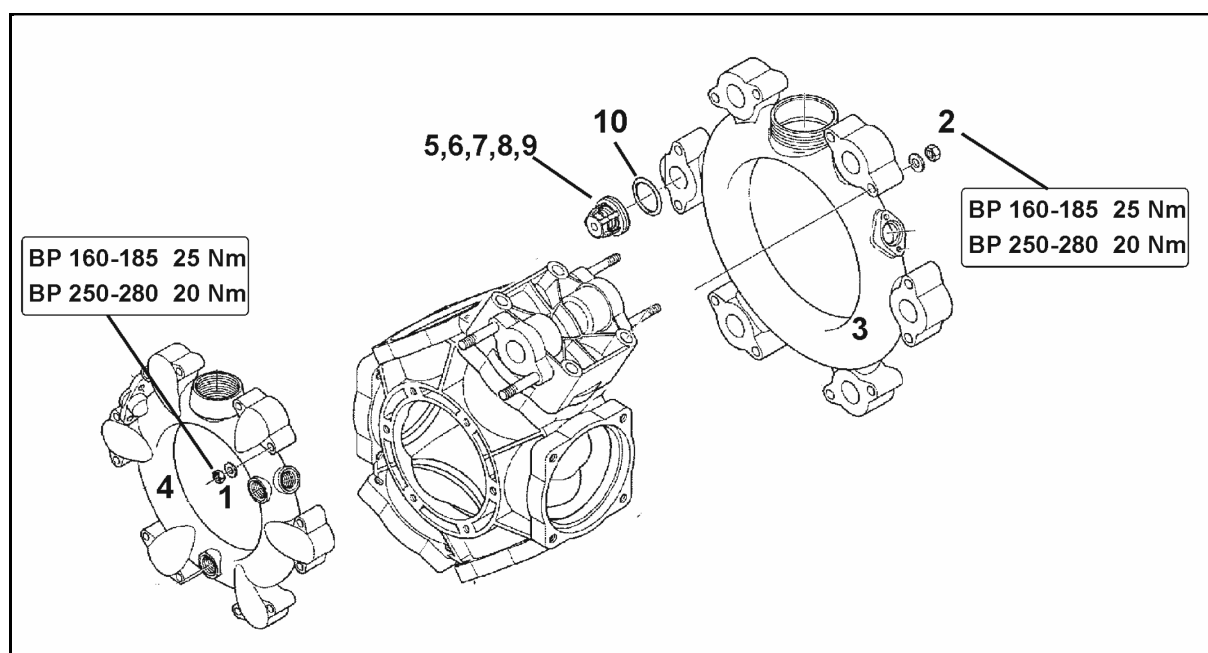

Fig. 140
- Pay attention to the respective installation positions of the valves on the suction and pressure sides before removing the valve groups (5).
- When reassembling, ensure that the valve guide (Fig. 140/9) is not damaged. Damage may cause the valves to jam.
- Always tighten the screws (Fig. 140/1) in a crosswise fashion using the specified torque. Improper tightening of the screws causes warping, which results in leaks.
3. Remove the suction and pressure port (Fig. 140/3 and Fig. 140/4).
4. Remove the valve groups (Fig. 140/5).
5. Check the valve seat (Fig. 140/6), valve (Fig. 140/7), valve spring (Fig. 140/8) and valve guide (Fig. 140/9) for wear or damage.
6. Remove the O-ring (Fig. 140/10).
8. After testing and cleaning, fit the valve groups (Fig. 140/5).
9. Insert new O-rings (Fig. 140/10).
10. Mount the suction (Fig. 140/3) and pressure port (Fig. 140/4) on the pump housing.
11. Tighten the nuts (Fig. 140/1,2) in a crosswise fashion using a torque of **25 Nm (BP 160-185) / 20 Nm (AR 250-280)**.